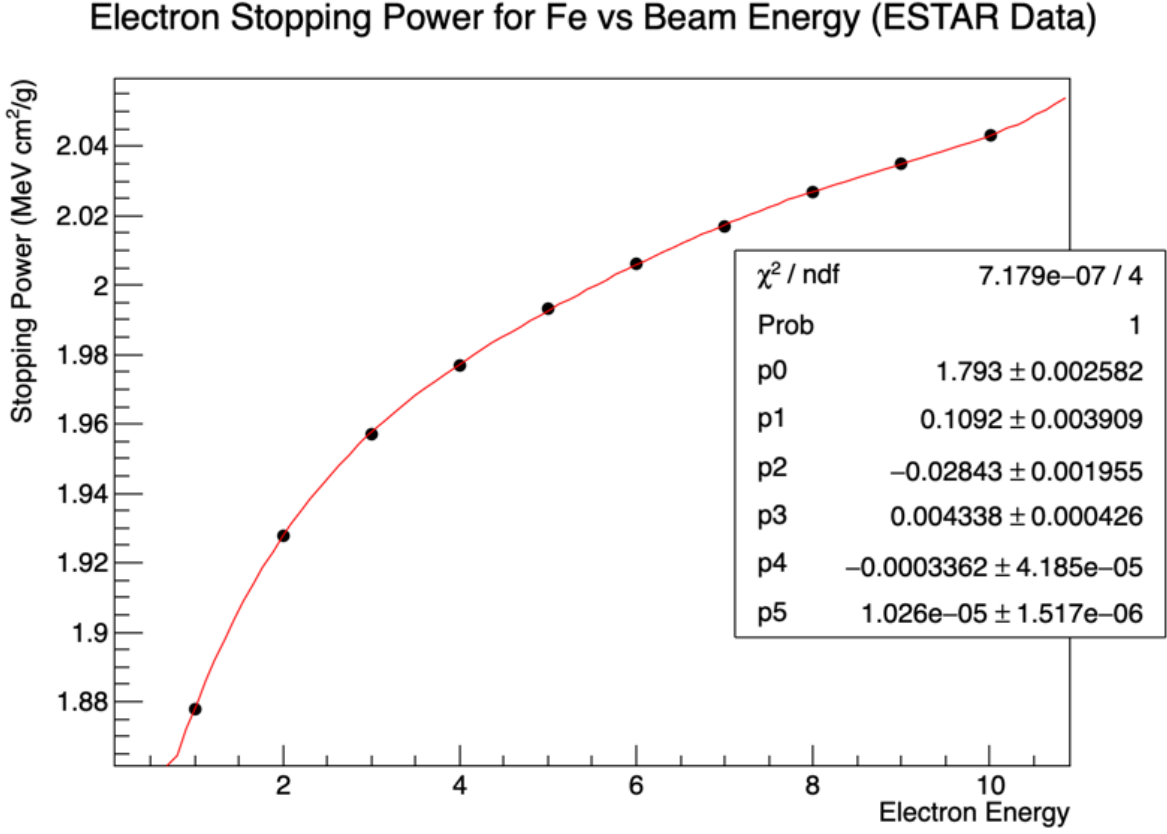

Figure 1: Stopping power for electrons as a function of energy in Fe. Data are from ESTAR and are fit to a 5-degree polynomial.
- α is the collision stopping power for electrons in Fe. It is a function of electron energy and is $2.043\ (\text{MeV cm}^2)/\text{g} = 3.273 \times 10^{-13}\ (\text{J cm}^2)/\text{g}$ for a 10 GeV electron using ESTAR. The ESTAR data along with a 5-degree polynomial fit used to calculate α as a function of energy is shown in Fig. 1. Care should be exercised when extrapolating outside the 1-10 GeV range.